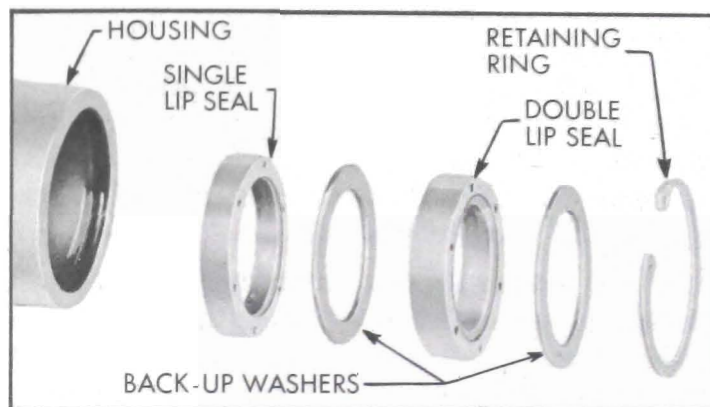
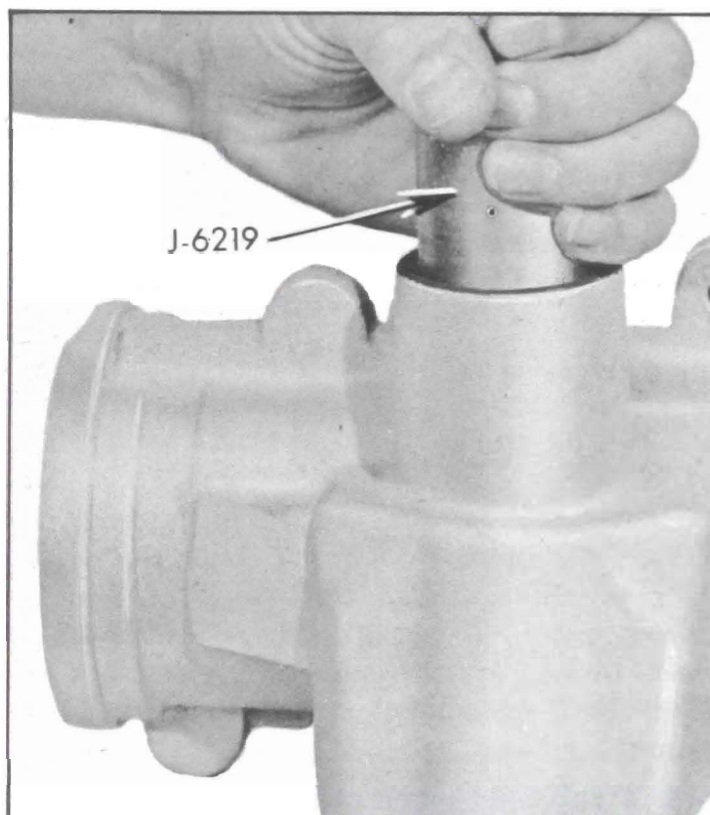

Figure 8-45—Pitman Shaft Seals
Figure 8-46—Installing Pitman Shaft Seals
2. Lubricate new pitman shaft seals in automatic transmission oil. Install the inner, single lip seal in bore first, then a back-up washer. See Figure 8-45. Using Tool J-6219, drive the seal and washer in far enough to provide clearance for the outer seal, back-up washer and retaining ring. See Figure 8-46. *The inner seal must not bottom on the counter bore.* Install the outer double lip seal and the second back-up washer in bore only far enough to provide clearance for the retaining ring with Tool